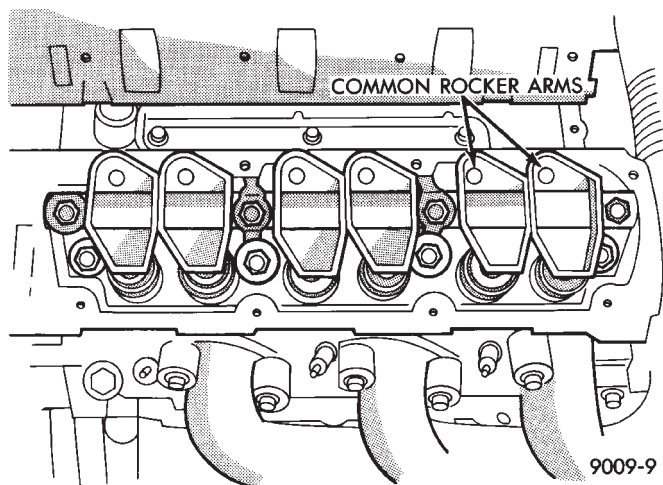

Fig. 4 Rocker Arm Location Left Bank
- (1) Remove upper intake manifold assembly. Refer to Intake and Exhaust Manifolds, Group 11.
- (2) Disconnect spark plug wires by pulling on the boot straight out in line with plug.
- (3) Disconnect closed ventilation system and evaporation control system from cylinder head cover.
- (4) Remove cylinder head cover and gasket.
- (5) Remove four rocker shaft bolts and retainers.
- (6) Remove rocker arms and shaft assembly.
- (7) If rocker arm assemblies are disassembled for cleaning or replacement. Assemble rocker arms in their original position. Refer to (Fig. 4) for rocker arm for positioning on the shaft.
- (1) Install rocker arm and shaft assemblies with the stamped steel retainers in the four positions, tighten to 28 N•m (250 in. lbs.) (Fig. 4).